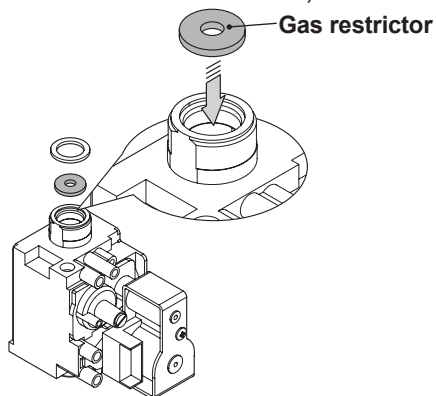

Fig. 9.2
- Carry out gas conversion by correctly replacing the gas restrictor (Fig. 9.2), referring to the "Technical Data" section (page 24 Advance Plus 25S ERP and page 27 Advance Plus 30S ERP).